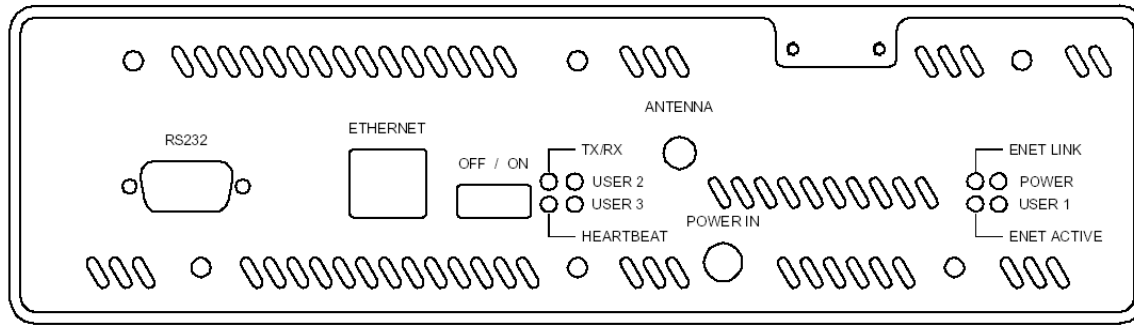

Fig. 1: Rear panel of the PulsON 200 radio
3. Connect the supplied power supply to the **POWER IN** interface (Fig. 1).